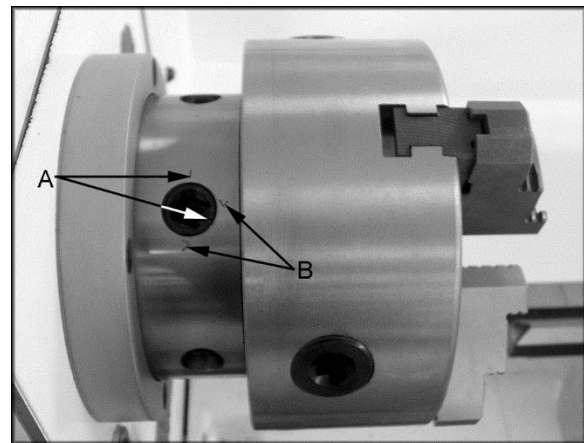

Figure 4
1. Support the chuck while turning three camlocks 1/4 turn counter-clockwise with the chuck key enclosed in the toolbox. Figure 4 shows the cam in the secure position. Line up the two marks (A, Fig. 4) for removal.
5. Lift the chuck up to the spindle nose and press onto the spindle. Tighten in place by turning the cam locks 1/4 turn clockwise. The index mark (A, Fig. 4) on the camlock should be between the two indicator arrows (B, Fig. 4). If the index mark is not between the two arrows, remove the chuck and adjust the camlock studs by either turning out one full turn (if cams will not engage) or turning in one full turn (if cams turn beyond indicator marks).